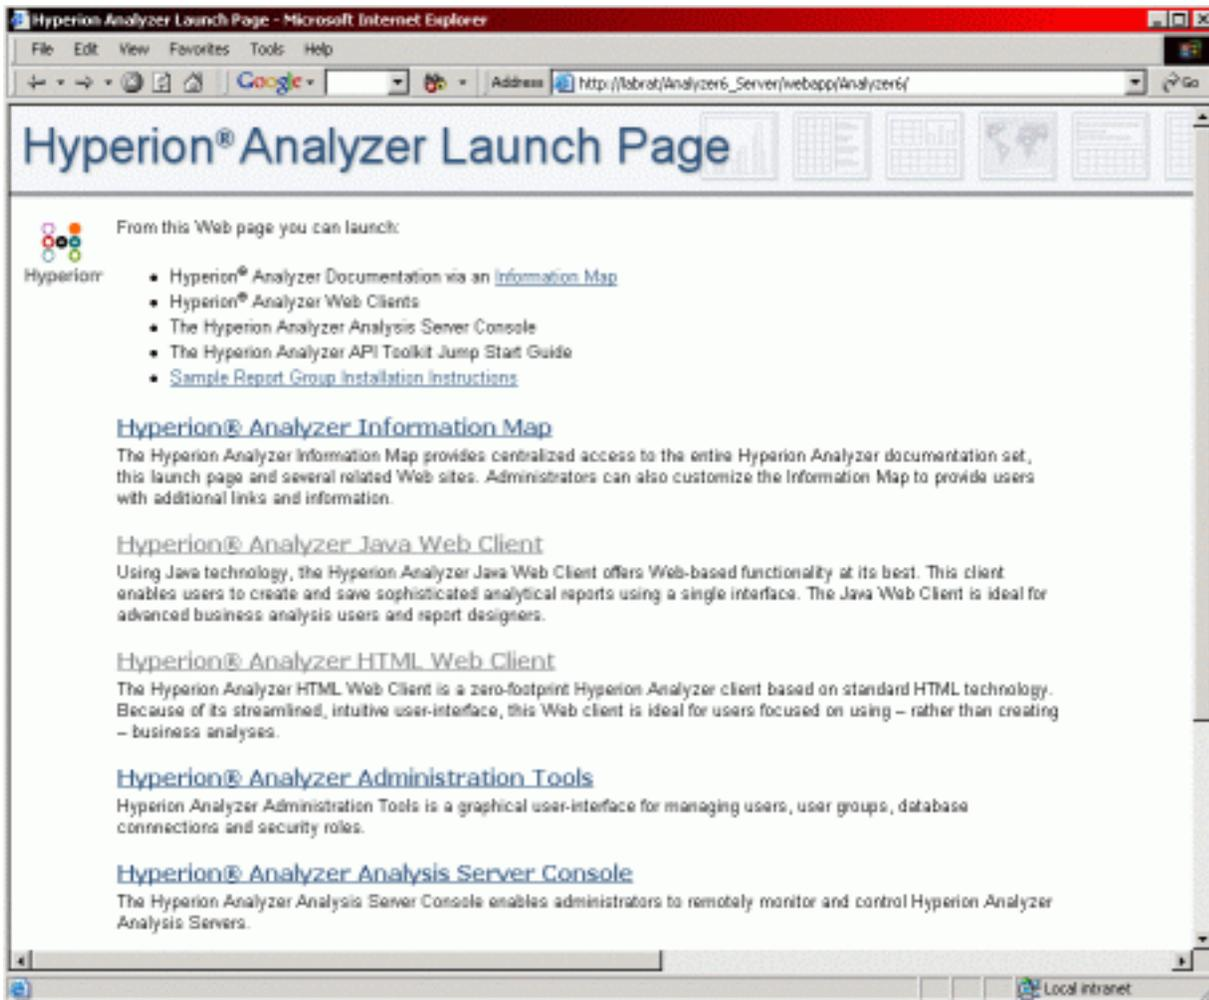

Figure 13: Analyzer Launch Page
After installing Analyzer Server for Windows(R) and starting the application, the user is directed to the Analyzer launch page (Figure 13), which essentially contains links to all of the available tools provided by the application.